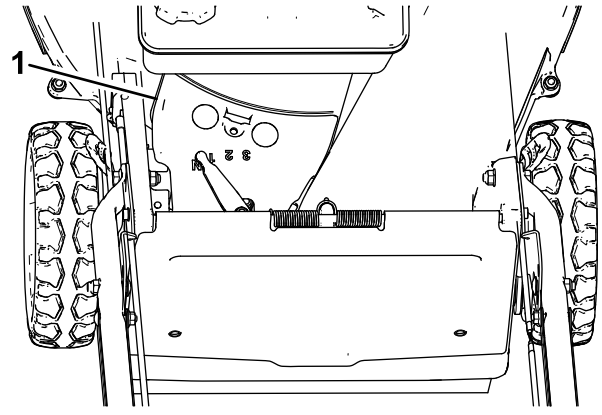

Figure 33
3. Remove the belt cover (Figure 33) from the mower housing.